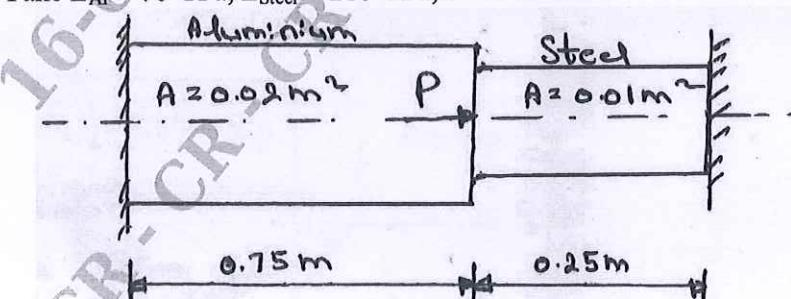

Fig.Q4(a)
4. a. Determine the nodal displacements and the stresses in each element in the bar shown in Fig.Q4(a). Take $E_{Al} = 70 \text{ GPa}$, $E_{Steel} = 210 \text{ GPa}$, $P = 12 \text{ kN}$.